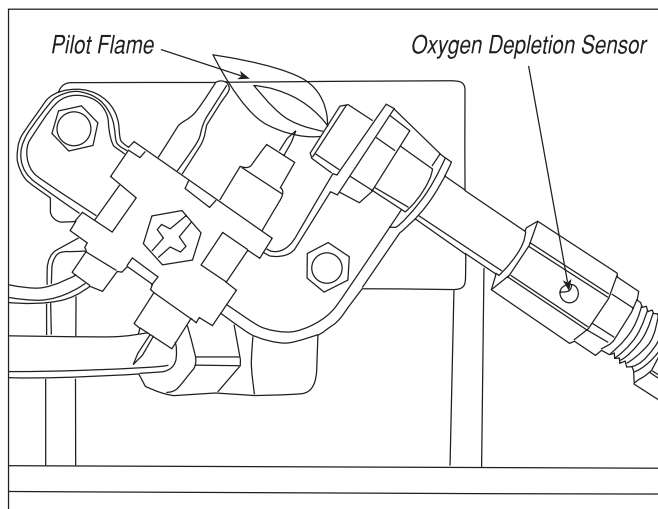

Figure 2
Visually inspect the pilot flame and burner periodically during use. The pilot flame should be blue in color (not yellow) and will extend beyond the thermocouple. The flame will surround the thermocouple just below the tip, see Figure 2, below. A slight yellow flame may occur where the pilot flame and main burner flame meet. The burner should be bright orange (with a slight
- 4 Remove (1) burner assembly retaining screw from bottom of the heater.
- 8 Inspect and clean pilot (mounted to bracket) by using a vacuum or apply air pressure through the holes in the pilot indicated by the arrows in Figure 2, at left.